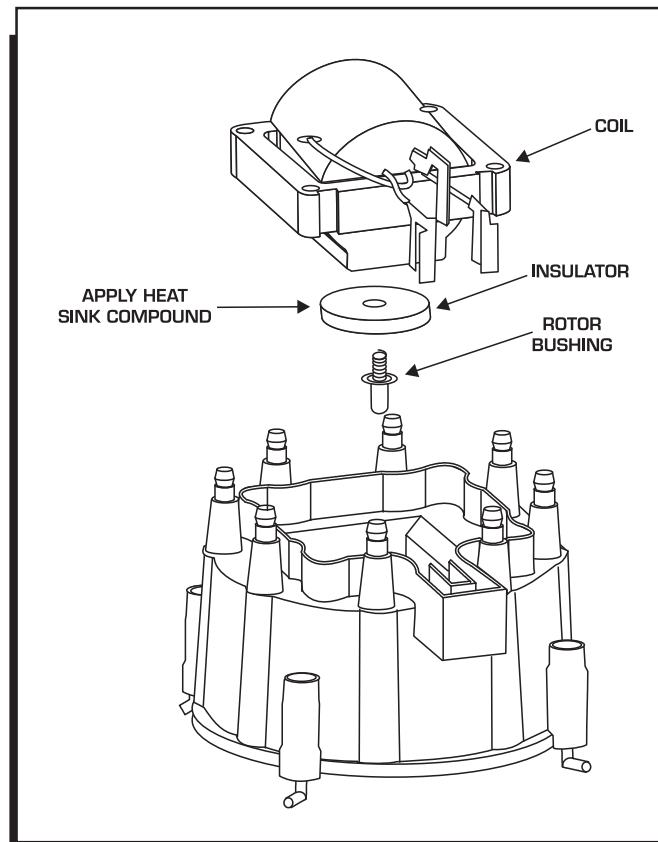

Figure 4 The Coil, Rotor Bushing and Insulator.
4. Install the cap and coil assembly. Figure 4 shows the exploded view of the assembly.